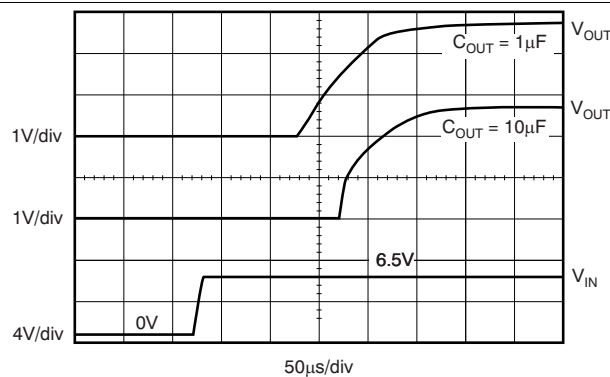

Figure 29. Turn-On Response
Note that for fastest startup, apply  $V_{IN}$  first, then the enable pin (EN) driven high. If EN is tied to IN, startup is somewhat slower. Refer to Figure 29 in *Typical Characteristics*. The quick-start switch is closed for approximately 135  $\mu$ s. To ensure that  $C_{NR}$  is fully charged during the quick-start time, use a 0.01- $\mu$ F or smaller capacitor.